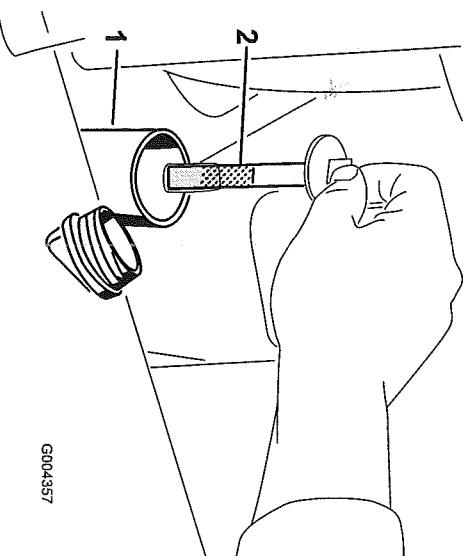

Figure 57
5. Remove the hydraulic tank cap and dipstick (Figure 57).